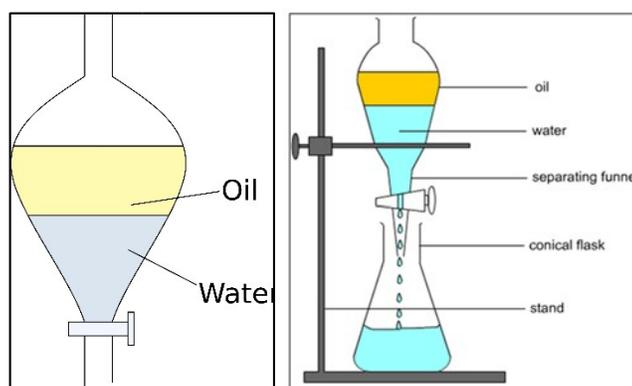

Figure 1: Diagram of separating funnel apparatus.
- Transfer the solution to a 50 mL separating funnel, using a funnel (Figure 1).